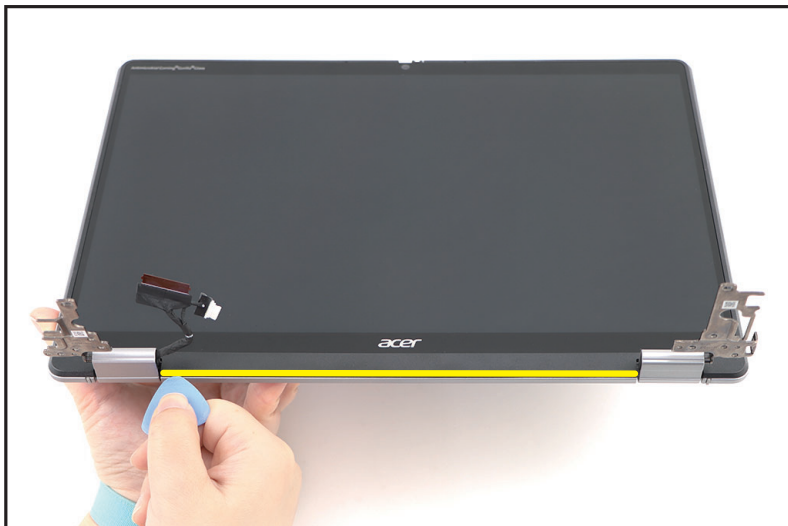

Figure 1-32. LCD Panel Removal
4. Continue prying the remaining latches on the bottom side of the LCD panel as shown in Figure 1-32.